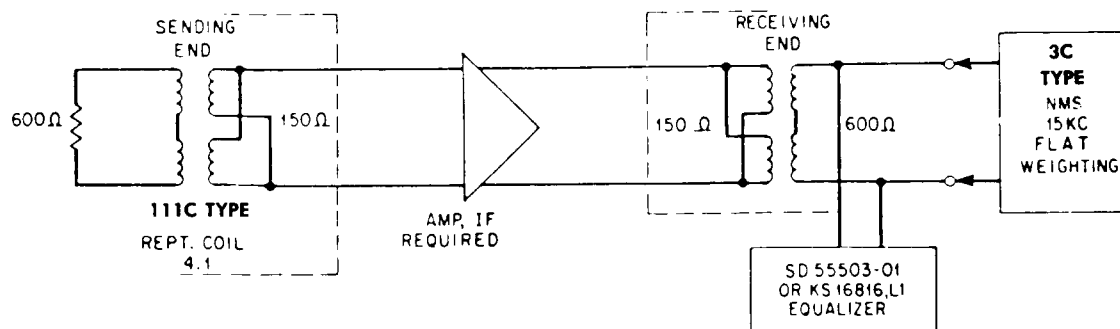

Fig. 3—Final Noise Test for 15 kHz Circuit
3.01 For 15 kc circuits, the test setup for the final noise measurements is shown in Fig. 3. The 3C type NMS should be equipped with the 15-kHz flat weighting network. The sets should be connected to the circuit in accordance with the standard practices for the instruments.
3.04 The crosstalk should be observed using the setup of Fig. 3 and using the monitoring receiver provided with the NMS. No intelligible words or syllables should be heard with the DB dial of the set adjusted to the same dial setting for measuring noise. The circuit should be monitored for at least 10 minutes during the heavy traffic load period.